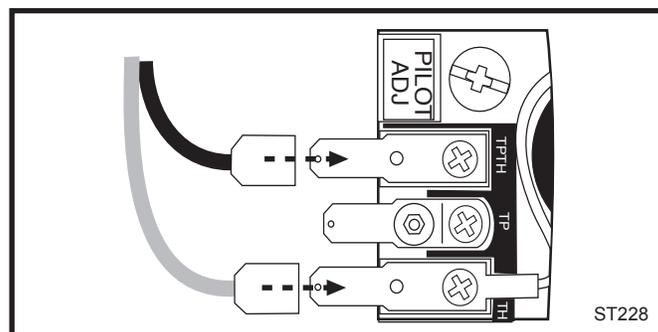

Fig. 20 Attach switch wires to valve.
3. Attach wires to valve terminals. (Fig. 20)
2. Connect the thermostat wires to the valve. (Fig. 20)